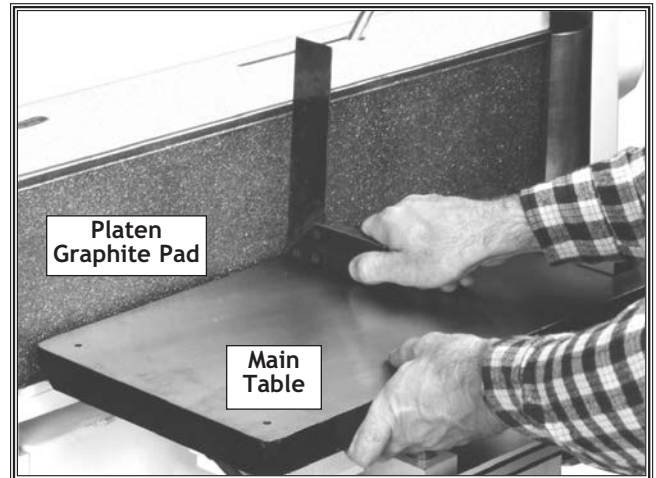

Figure 14. Machinist's square on the main table and against the platen graphite pad.
- With one hand, hold the main table and with the other hand place a machinist's square on the main table and against the platen graphite pad. See **Figure 14**.
- Have an assistant loosen both of the main-table tilt levers, and tilt the main-table so the table is perpendicular to the platen as indicated by the machinist's square. See **Figure 14**.